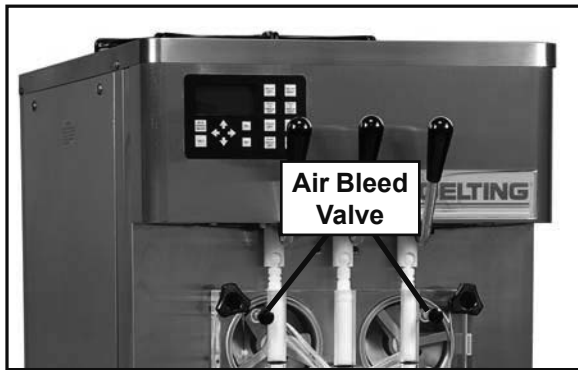

Figure 3-8 Air Bleed Valve
- C. Press the Pump button to turn the pump ON and open the air bleed valve on the front door by pushing the valve in and holding (see Figure 3-8).